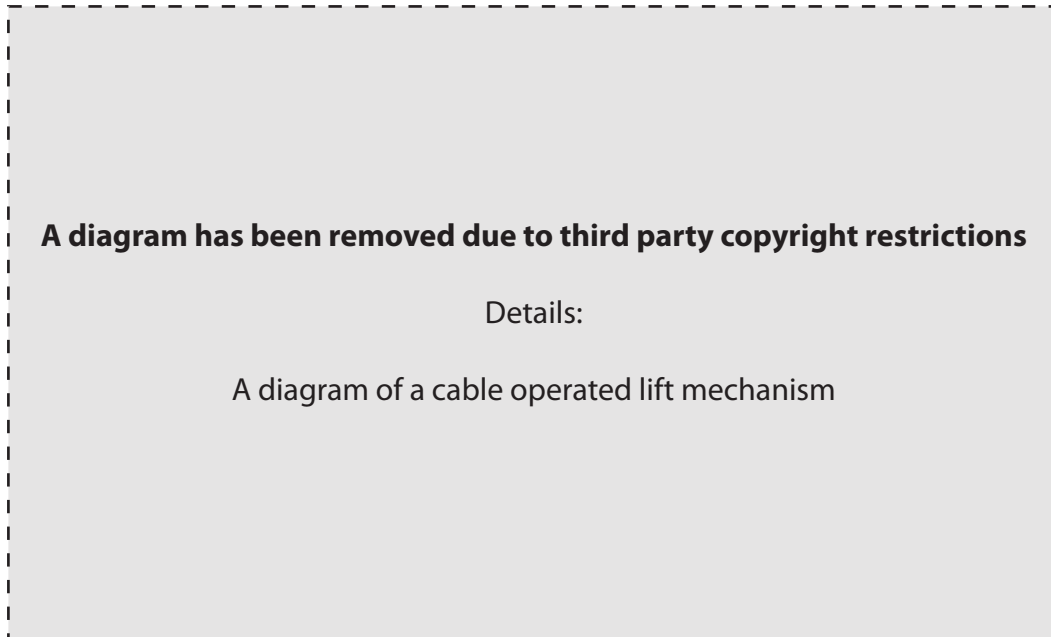

Fig.9
Fig.9 shows a model for the cable mechanism of a lift.
- (a) State two advantages of using a worm and pinion system as modelled in Fig.9. [2]